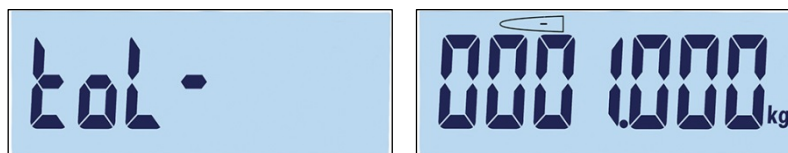

Figure 3-48: Negative Tolerance Label and Setting Screens
- Next, the negative tolerance (**Tol -**) screen appears, followed by the negative tolerance editing screen (Figure 3-48).